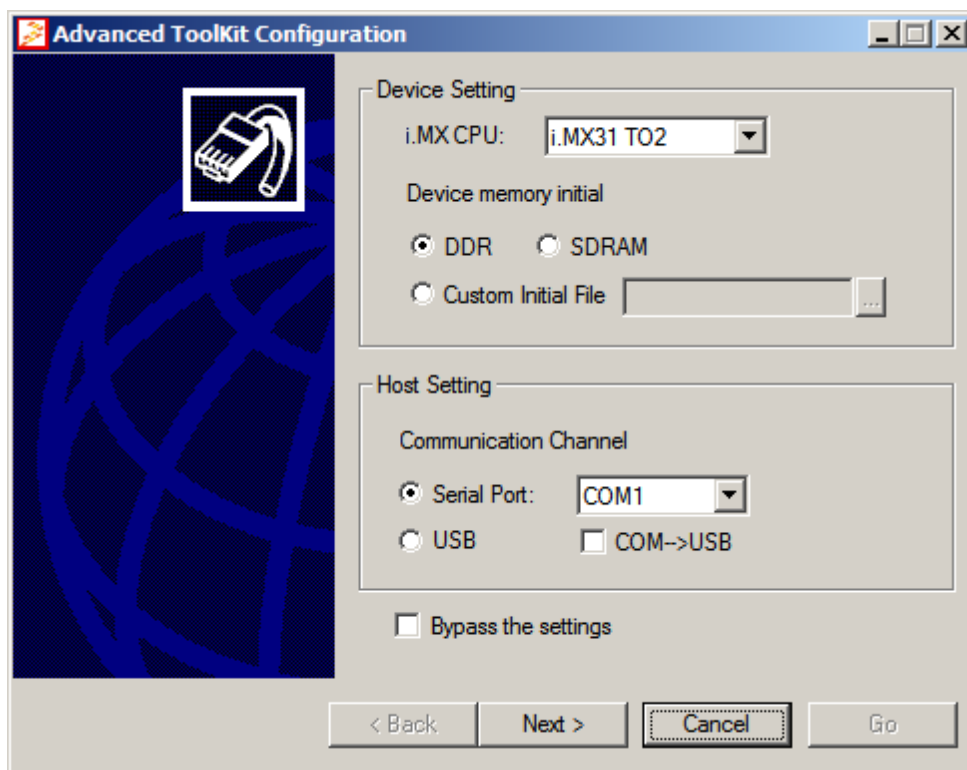

Figure 5-4 Initial Configuration
3. Run `ADSToolkit.exe`. The Advanced ToolKit Configuration screen is displayed (Figure 5-4).